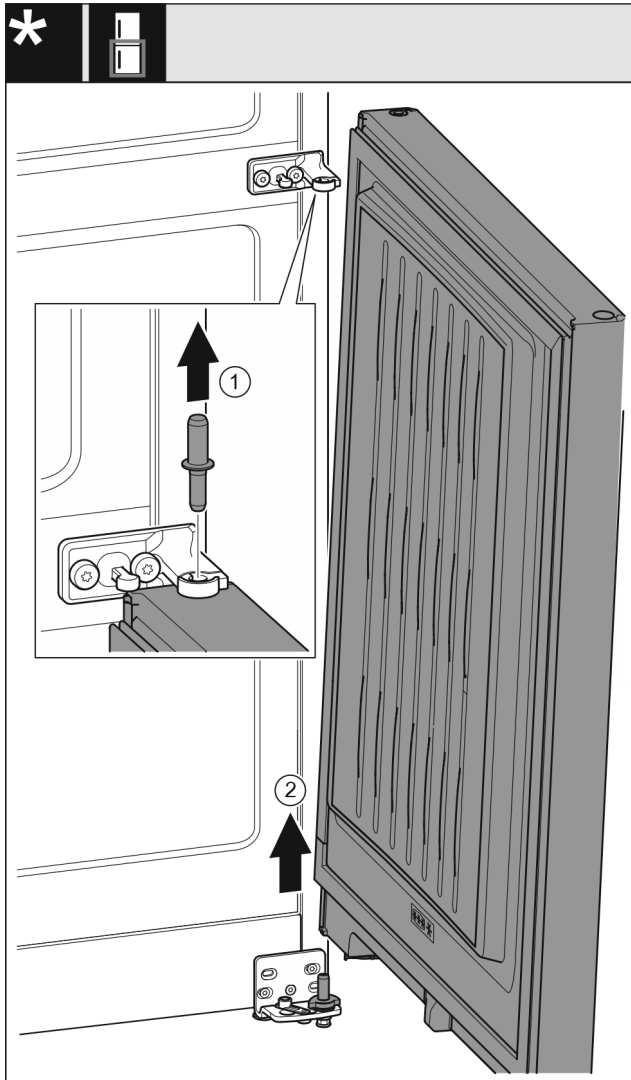

Fig. 11 Without closing damper
- ▶ Pull out the pin Fig. 11 (1) upward.
- ▶ Swivel out the door Fig. 11 (2), pull it upward, and set it aside.